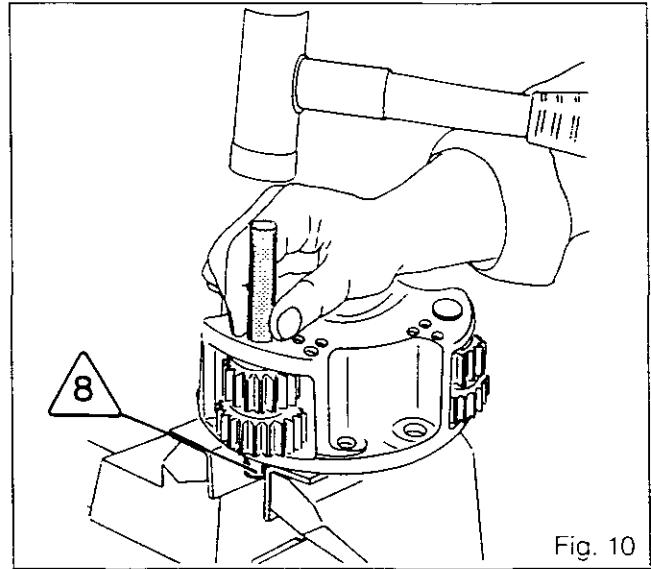

Fig. 10
- 28. Drive out spindles /8\ with a drift and a mallet (Fig.10).
- 30. Take out needle-roller bearings (11) and (16), spacers (14), and washers (10) and (17).